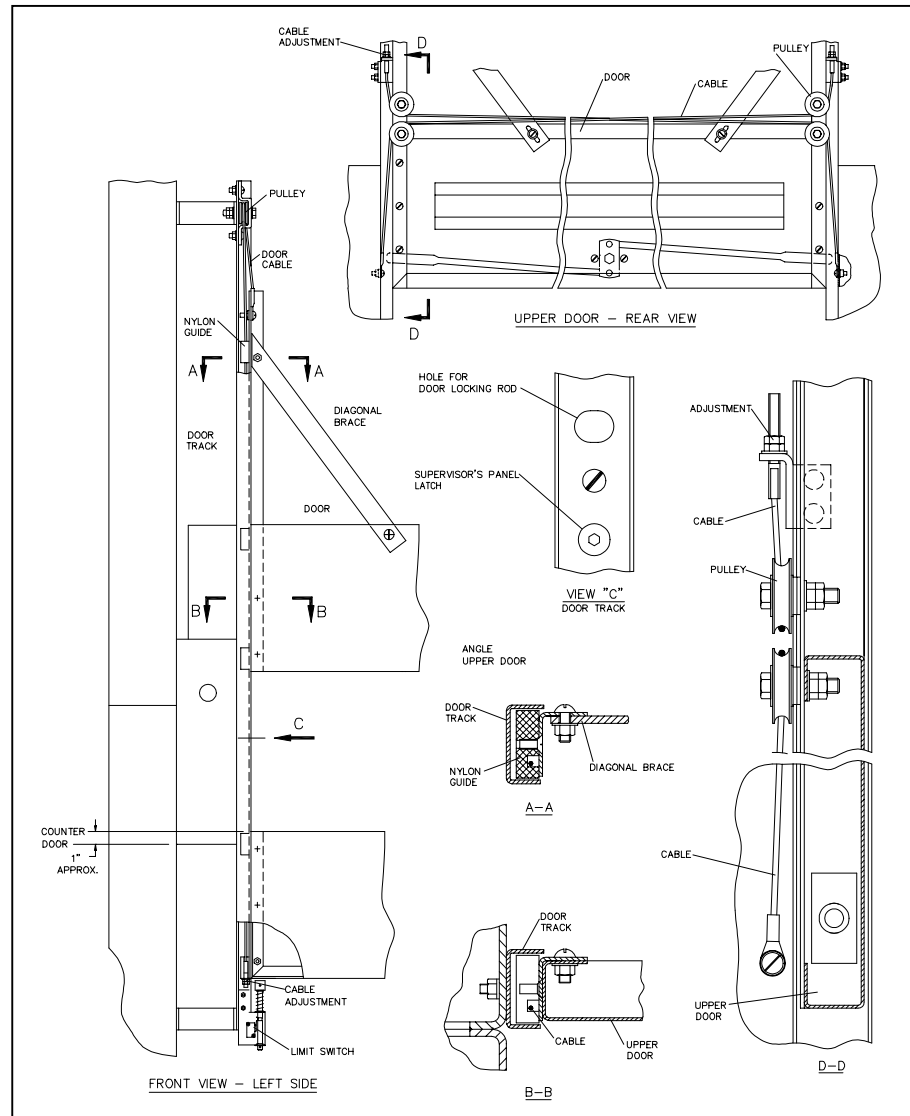

Figure 28. DOOR INSTALLATION (130-INCH WIDE PANS)
15. **For carousels equipped with 130-inch wide pans:** Thread the stabilizing cables diagonally between the pulleys at the top of the doors (see Figure 28). Anchor the free ends of the cables with 10-32 x 1/2 inch round head screws, washers, and elastic stop nuts. Set cable tension to allow the doors to move smooth and parallel.